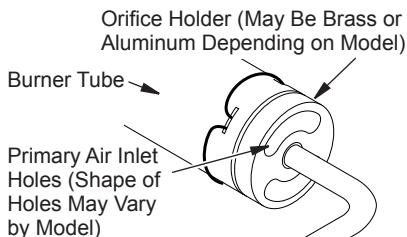

Figure 30 - Orifice Holder On Outlet Burner Tube
2. Inspect burner, pilot and primary air inlet holes on orifice holder for dust and dirt (see Figure 30).